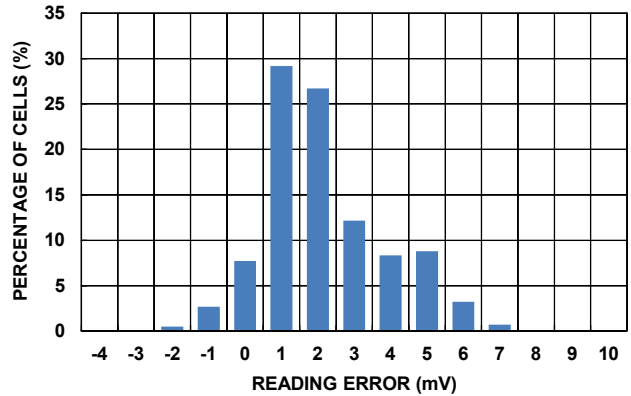

Figure 8. Cell Reading Error from Evaluation Boards at Cell Voltage from 2.6V to 4.0V, and -20°C to +60°C Histogram
- Stresses may be induced in the ISL78610 during soldering or other high temperature events that affect measurement accuracy. Initial accuracy does not include effects due to this. See Figure 8 on page 19 for cell reading accuracy obtained after soldering to Renesas evaluation boards. When soldering the ISL78610 to a customized circuit board with a layout or construction significantly differing from the Renesas evaluation board, design verification tests should be applied to determine drift due to soldering and over lifetime.